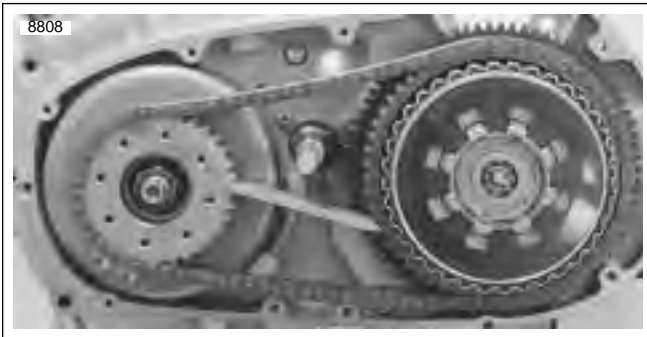

Figure 6-24. Sprocket Locking Link Tool (Part No. HD-38362) for XB9SX models and (Part No. HD-46283) for 1200 models.
- a. See Figure 6-24. Install SPROCKET LOCKING LINK (Part No. HD-38362).